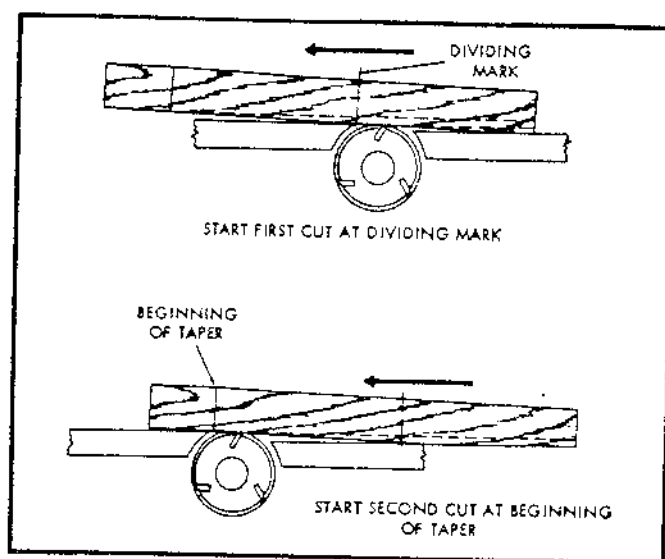

Figure 7. Tapering Long Stock
Tapering long stock. (See figure 7.)
4. Position stock so that the dividing mark is resting on the lip of the outfeed table as shown at the top of figure 7, and plane the deep end of the taper first.
5. Now rest the mark indicating the beginning of the taper on the lip of the outfeed table (fig. 7) and plane the total length of the taper in the second cut.